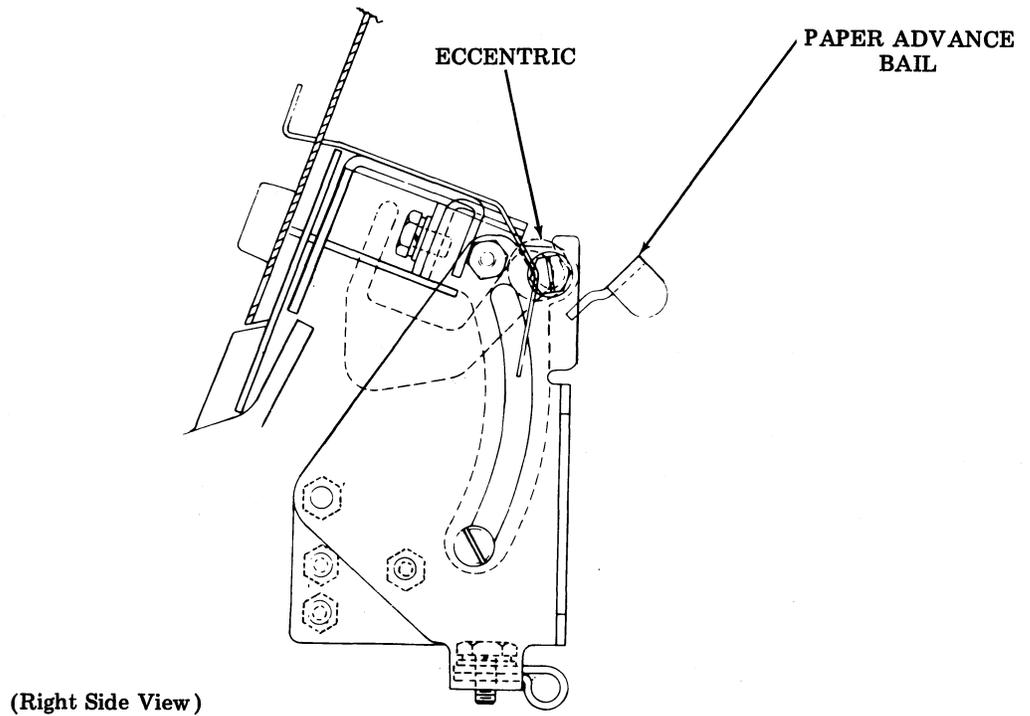

Figure 13 - Control Panel Button Adjustment
4.11 **Paper Advance and Local Return:** With the control panel in its normal position and the typing unit secured to the base, loosen the two eccentric screw locknuts friction tight. Rotate the eccentric until the gap between the paper advance bail and/or the local return bail is 0.060 inch minimum (Figure 13). Tighten both nuts. Move the print hammer carriage to the right and check the local carriage return operation. The paper advance operation must be checked under power.